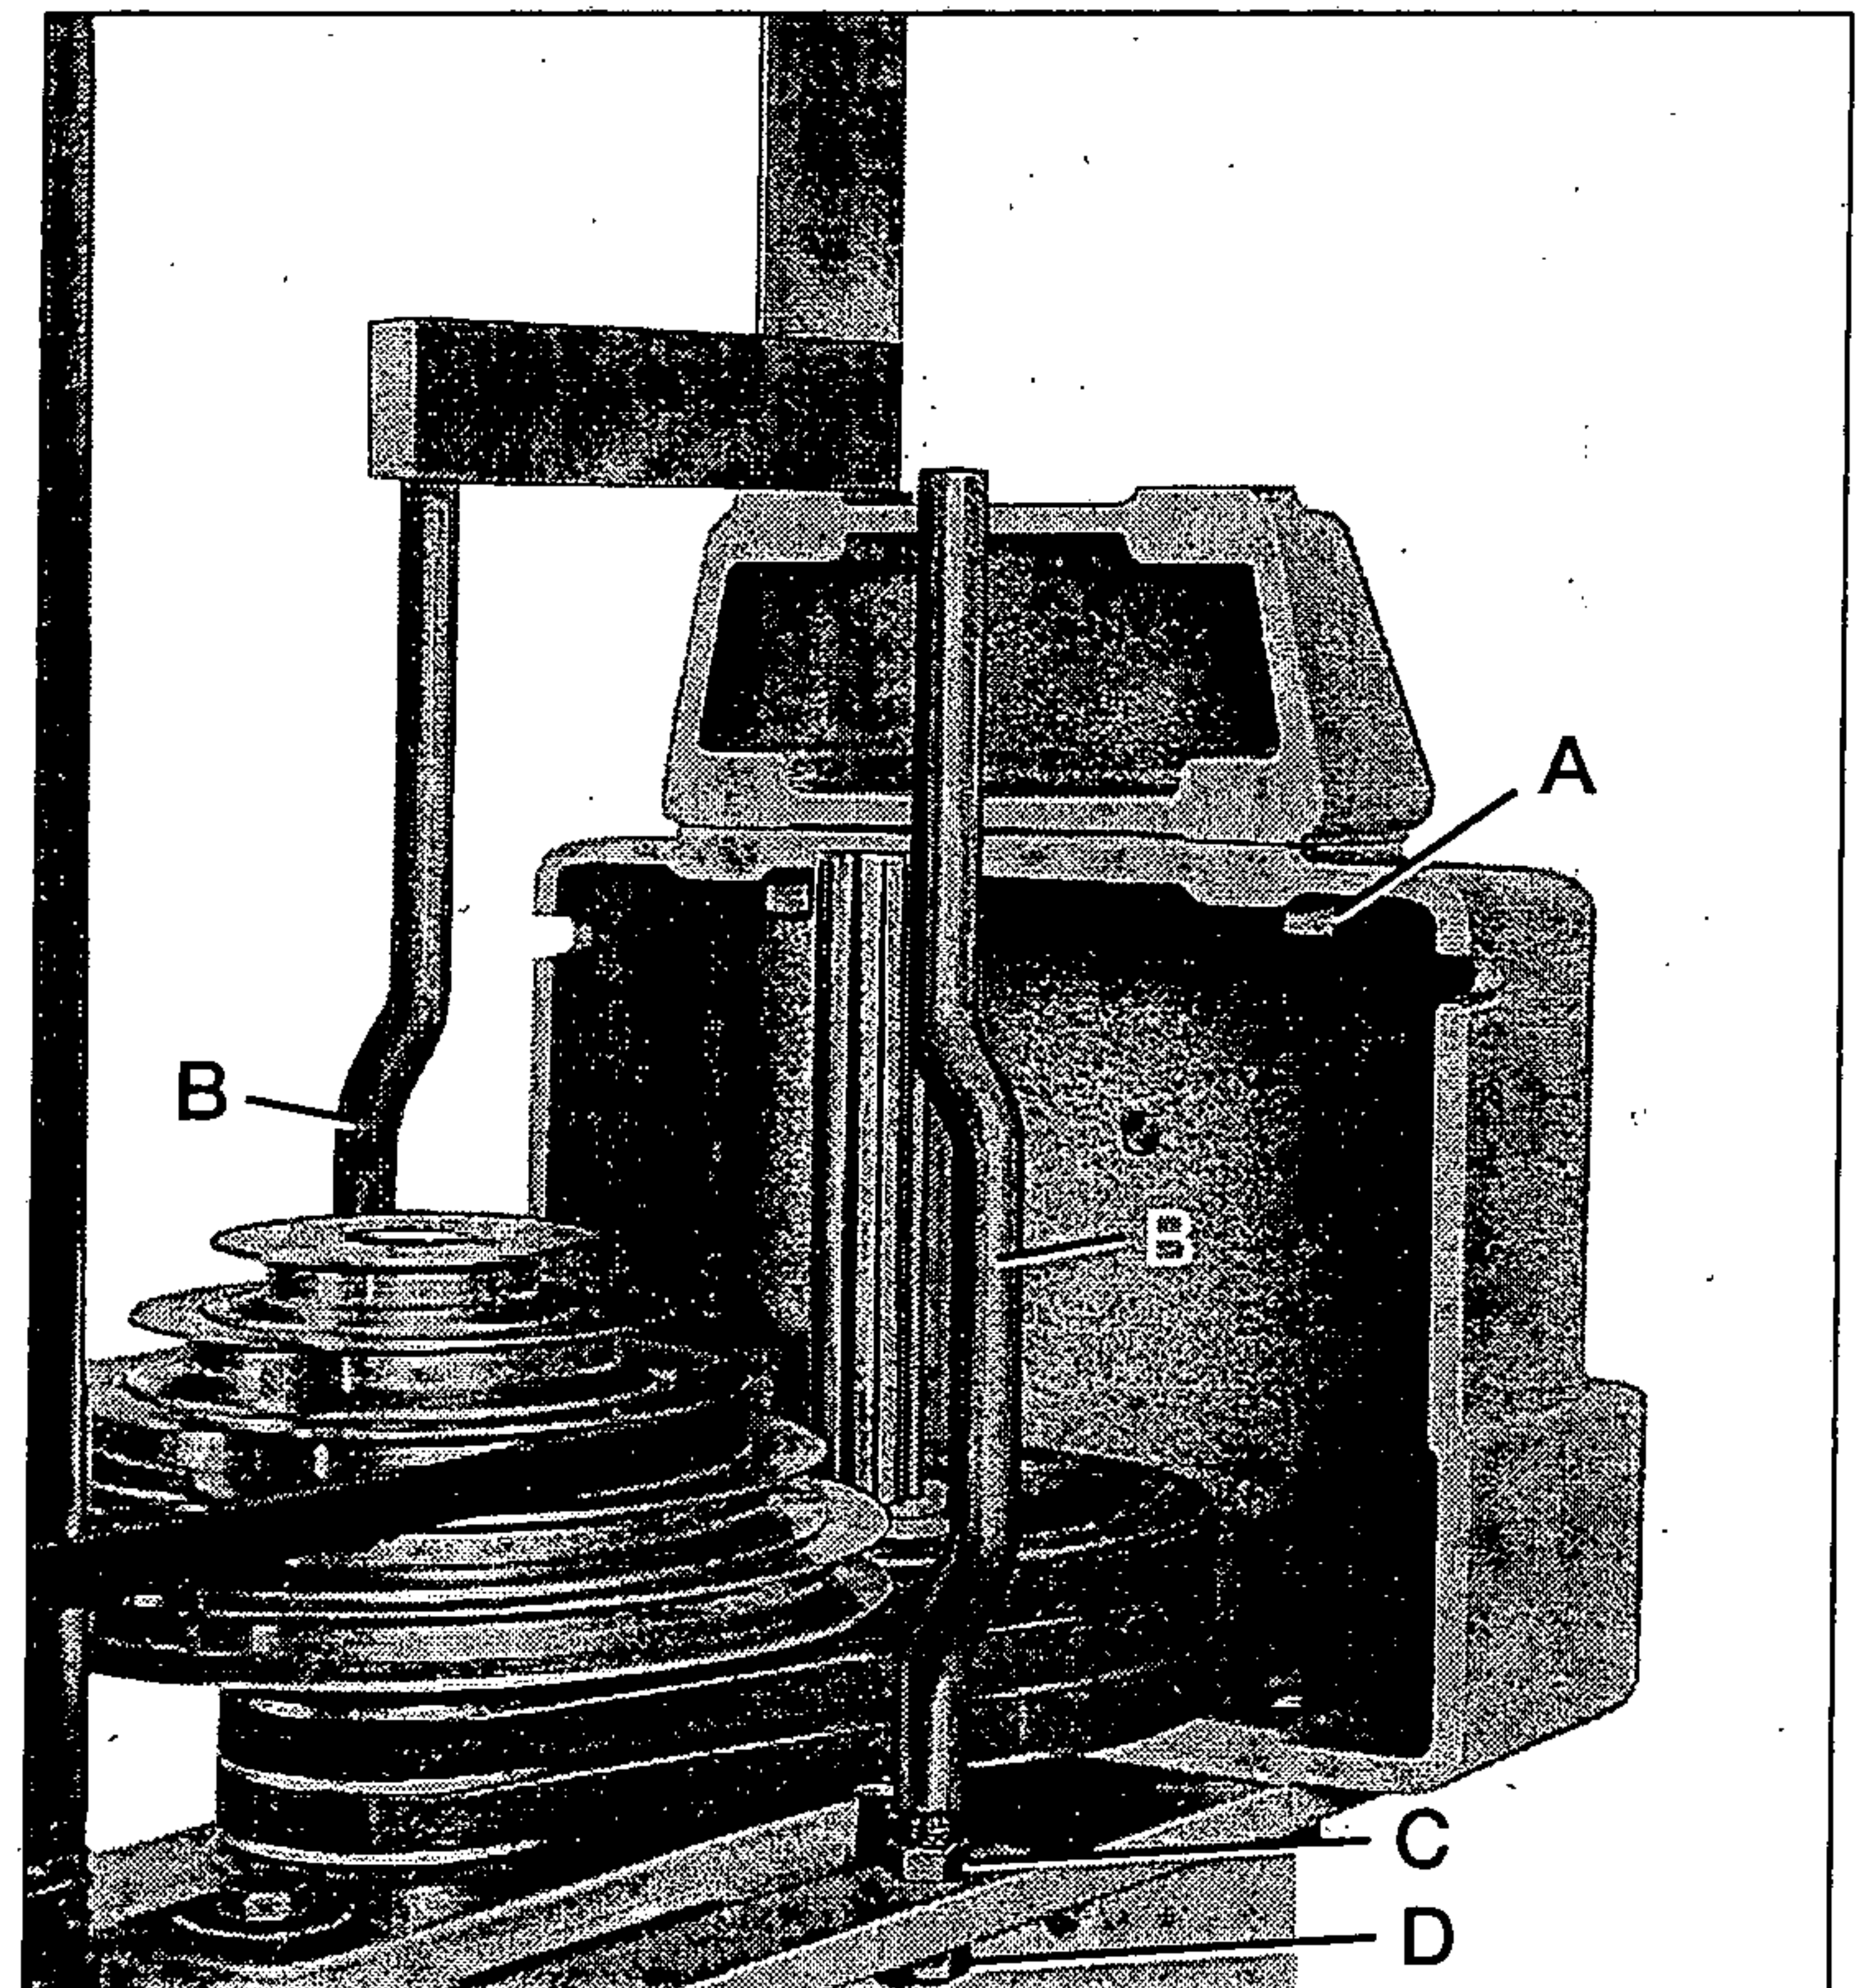

Figure 3
6. Place cylinder mounting support on top of spindle pulley guard and start the two mounting screws (A, fig. 3).
7. Turn nuts (C) onto support rods (B).